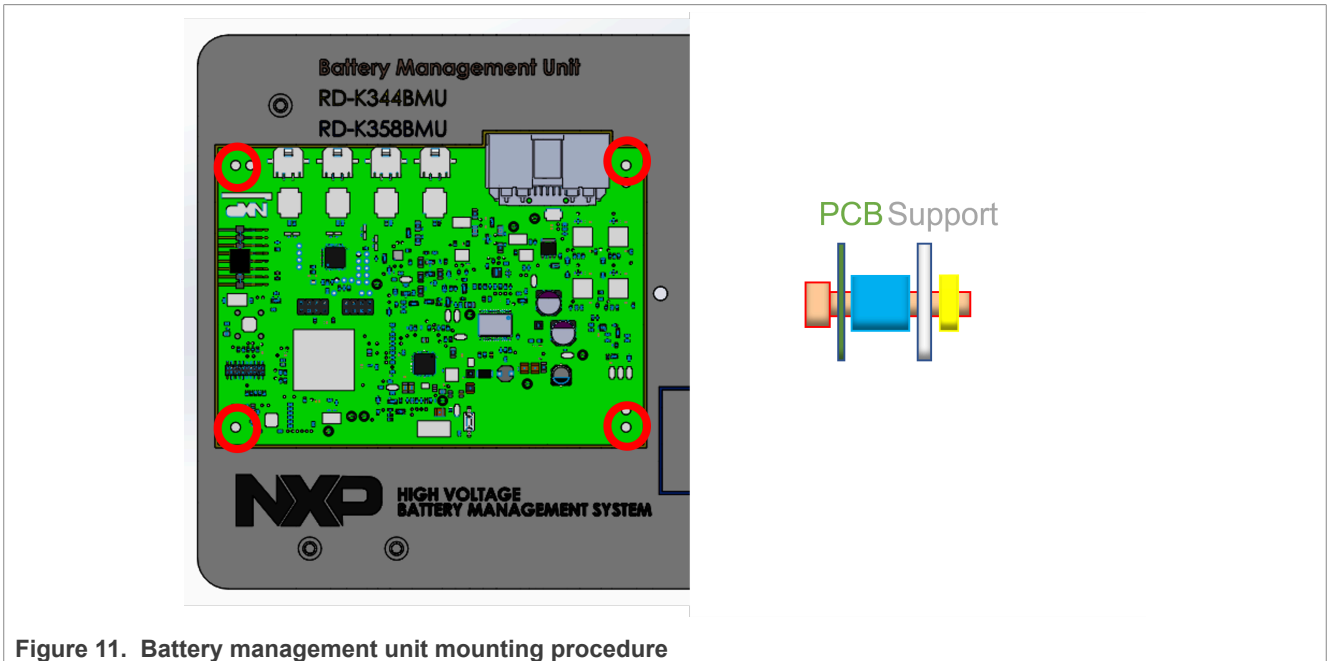

Figure 11. Battery management unit mounting procedure
1. Mount the BMU to the top plate using four screws (280-78012), four standoffs (280-78015) and four nuts (280-76566) according to Figure 11.